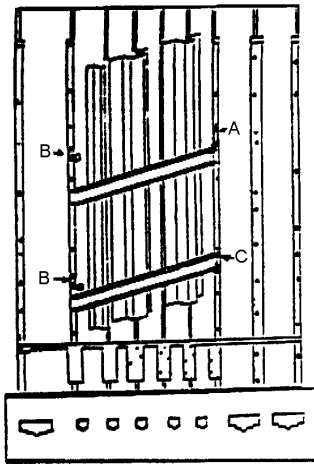

Figure 1
4. With the gate in its closed and latched position, remove the top gate hinge (See section "A", figure 1 on page 3) by chiseling the heads from the two pop rivets that secure it. Discard the hinge.
6. Remove top and bottom gate latches (See section "B", figure 1 on page 3) by chiseling the heads from the two pop rivets that secure it. Discard the latch.
7. Remove the bottom gate hinge (see section C, Figure 1 on page 3) by chiseling the heads from the two pop rivets that secure it.